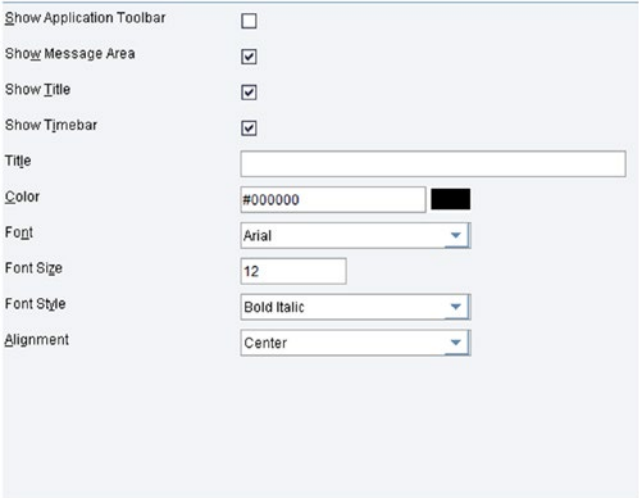

Figure 7-51. i5SPC chart title configuration
- *i5SPC chart title*: This tab sets the title, color, font, and other properties for your i5SPC charts. See Figure 7-51.